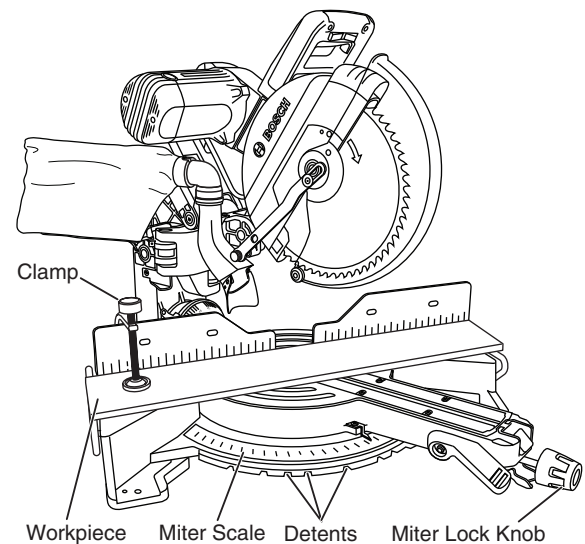

Figure 47. Miter Cut
2. Loosen the miter lock knob. Lift miter detent lever and move the saw to the desired angle, using either the detents or the miter scale. Tighten miter lock knob (see Figure 47).